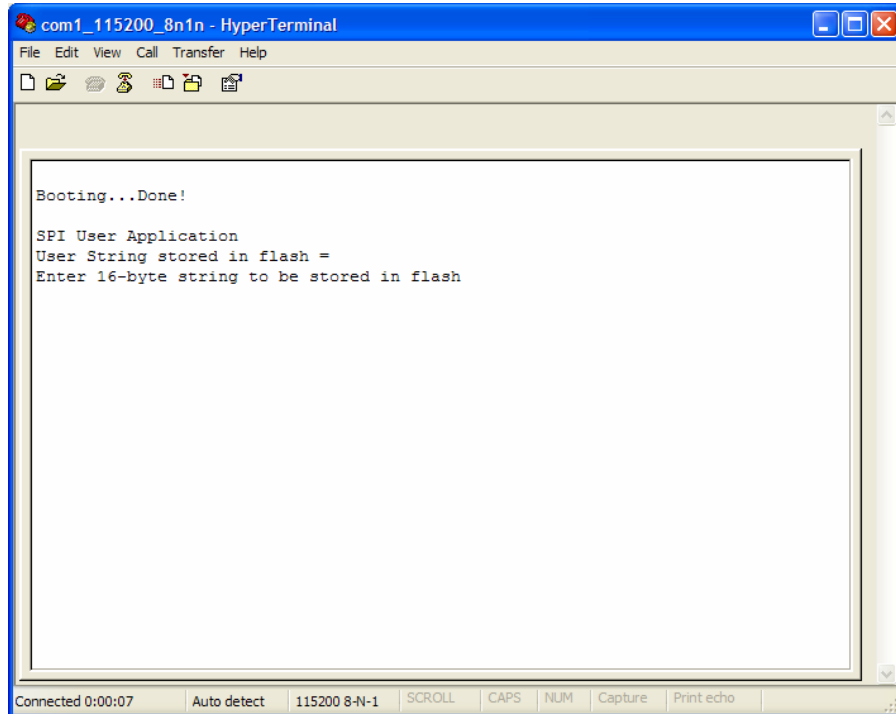

Figure 10 – Configured and Bootloaded from SPI Flash
23. Turn board power on. The DONE light should go on, and you will see HyperTerminal display as shown in Figure 10.